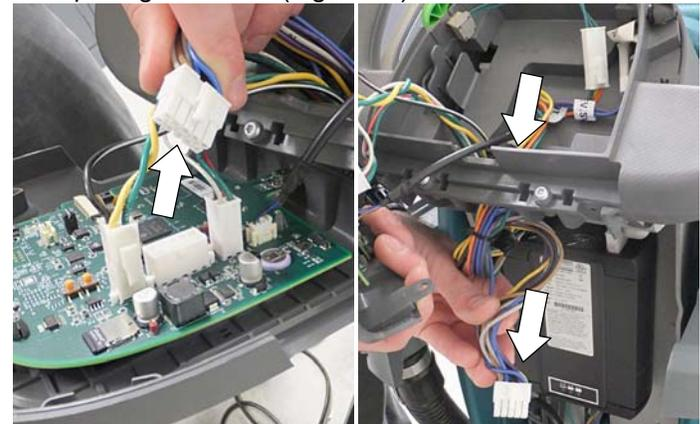

Fig. 16
- Disconnect the large harness connector from control board and route the connector down through harness opening as shown (Figure 16).